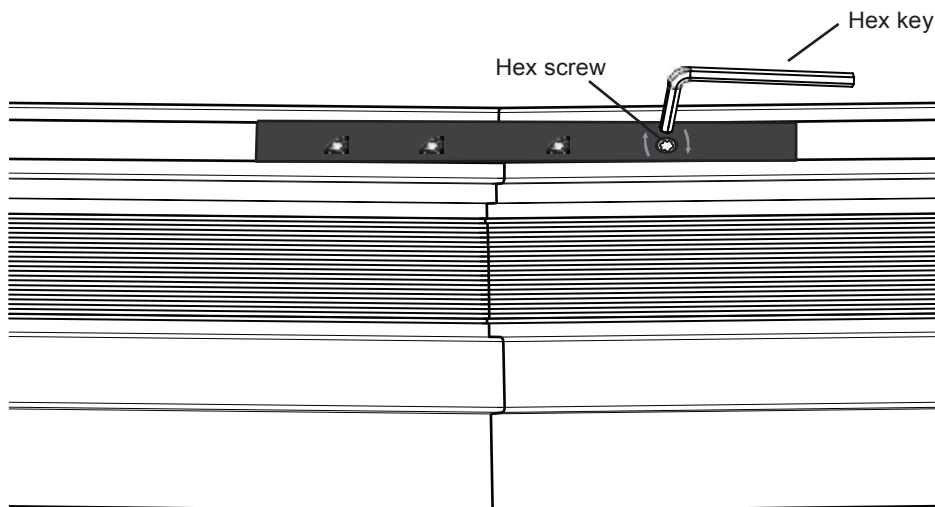

Fig. 9
8. Tighten the hex screws on the face and underside of the second track and ensure all hex screws fixed firmly. (Refer to Fig. 9)